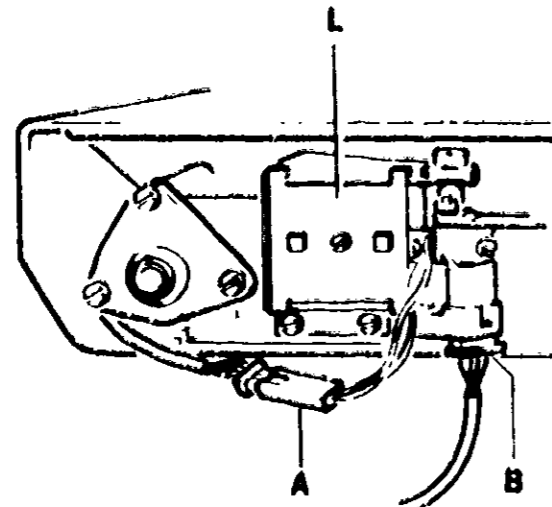

FIGURE 83
- A (Figure 83) to needle bar actuator coil (L)
- B (Figure 83) from needle bar actuator pot (L)